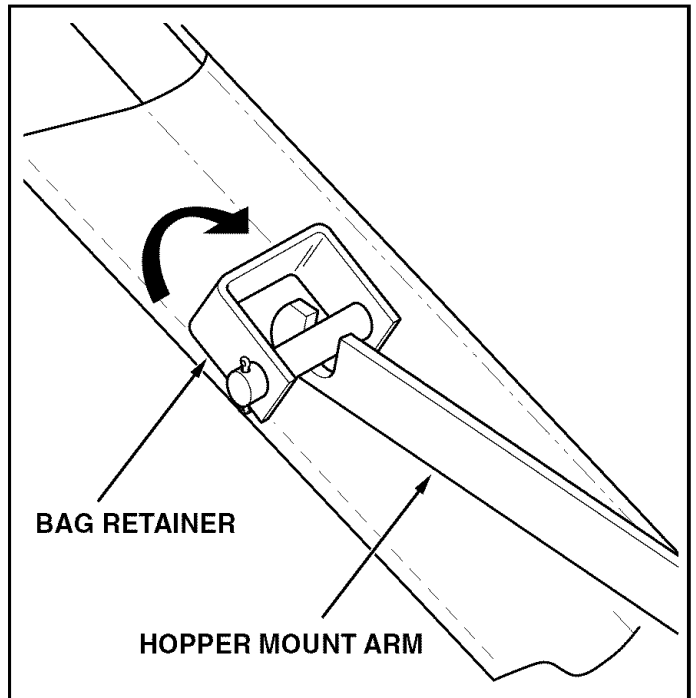

FIGURE 19
- To remove the hopper bag from the sweeper, simply pivot the bag retainers upward and remove the bag. See figure 19.